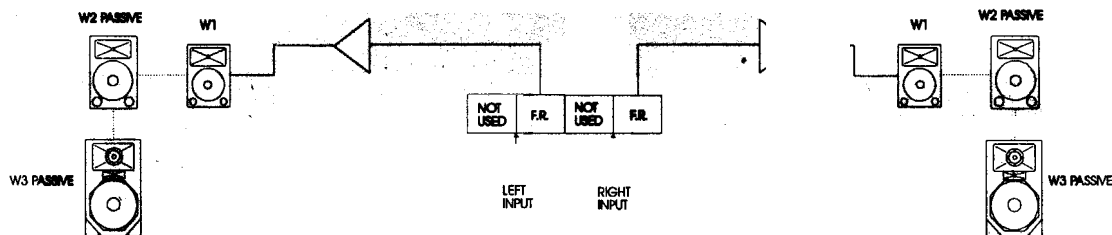

FIG. 7 W1, W2 or W3 Passive Operation using WX3ASF Card
A WX3A controller is used to provide LF equalisation and limiter functions for stand-alone W1, W2 and passive W3 systems operated full-range (see Fig 7). In this instance the W1, W2 and W3 should be driven from Bands 2 and 4 set to operate in full-range Mode (1) (see Section 6.3).